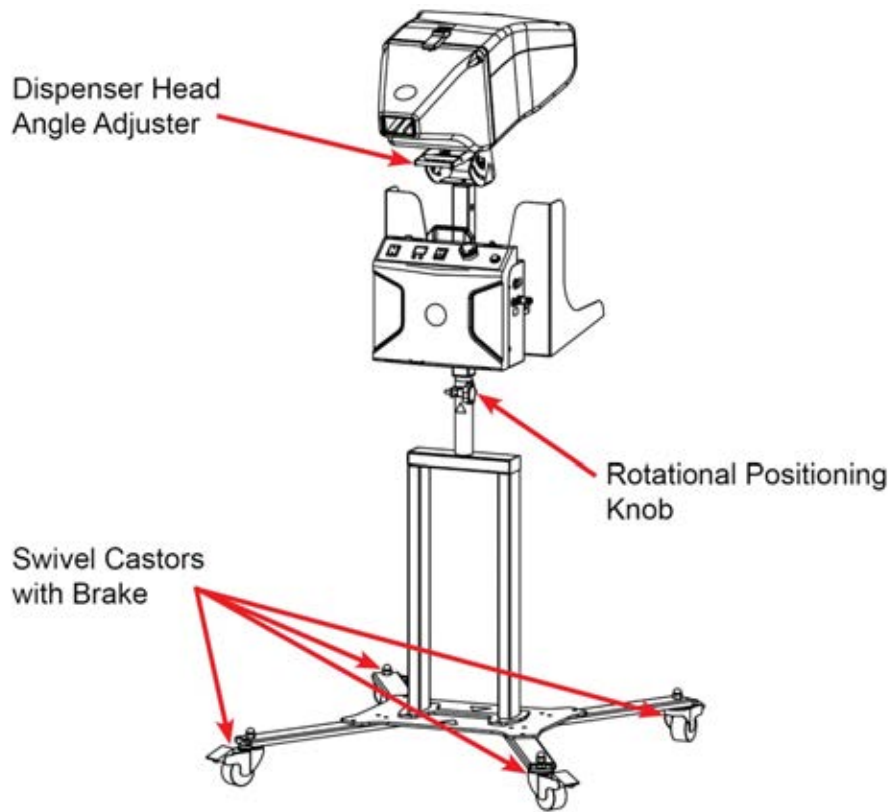

Figure 7 Floor Stand
1. Floor Stand (refer to Figure 7).
3. Tighten the Rotational Positioning Knob by turning it clockwise (refer to Figure 7).